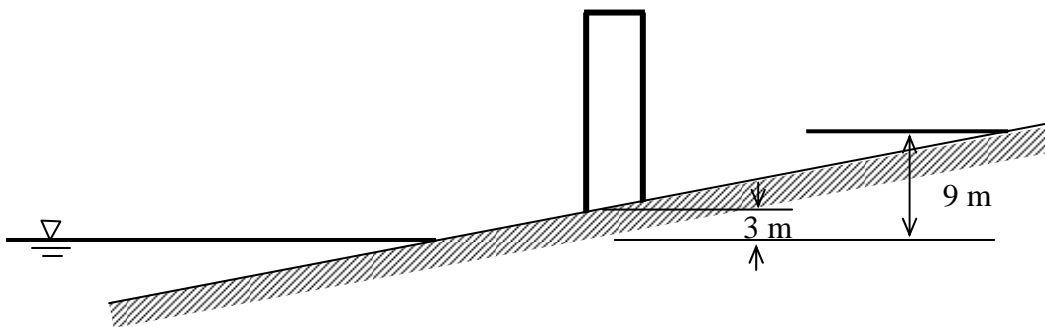

Figure 3
b) A rectangular-shaped building is constructed at 300 m from the shoreline of Batu Ferringgi, Penang. The building is located at 3 m above the mean sea level. It has 15 m wide facing the beach with a slope 1/100. The tsunami inundation map indicates the maximum run-up height of 9 m at the location of 600 m from the shoreline as shown in Figure 3. Use the chart of Figure 4 to determine the maximum flow velocity of depth,  $d$ , at the ground elevation,  $z$  and maximum run-up elevation,  $R$ . Then calculate